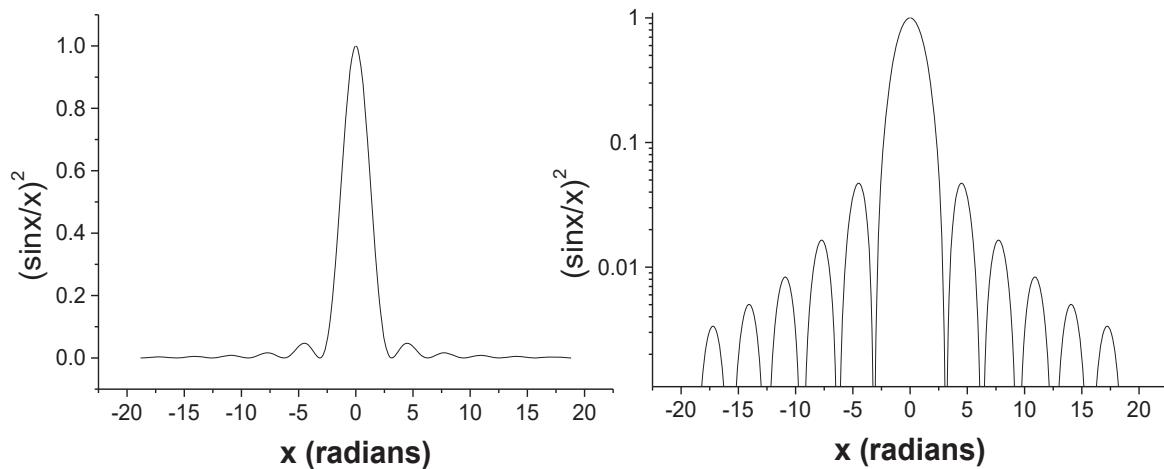

Figure 4b *Diffraction pattern intensity for a single slit plotted against the reduced variable x*
and I_0 is the intensity at the centre. This function is plotted in figure 4b.
- Q: How the function from figure 4b compares with the pattern you have recorded?
You could carry out a detailed comparison by calculating the function for your particular slit width and superimposing it on the experimental data, but it will be sufficient, since you should already have found that the angular positions of the minima are correctly predicted, to show that the relative heights of the maxima given by the theory (see figure 4b) are also correct.